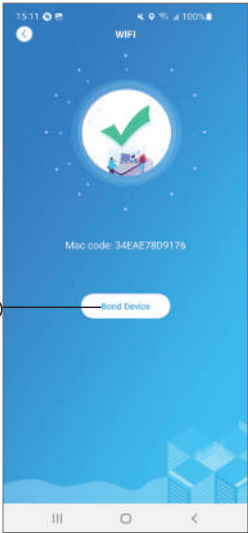

Fig.28 Bond device interface
- Click ① to bond device (Fig. 28);